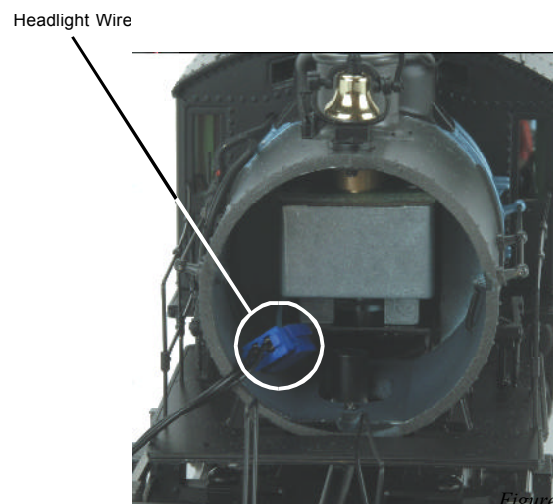

Figure 9
- 3) Remove wires from front power truck (Fig. 9).